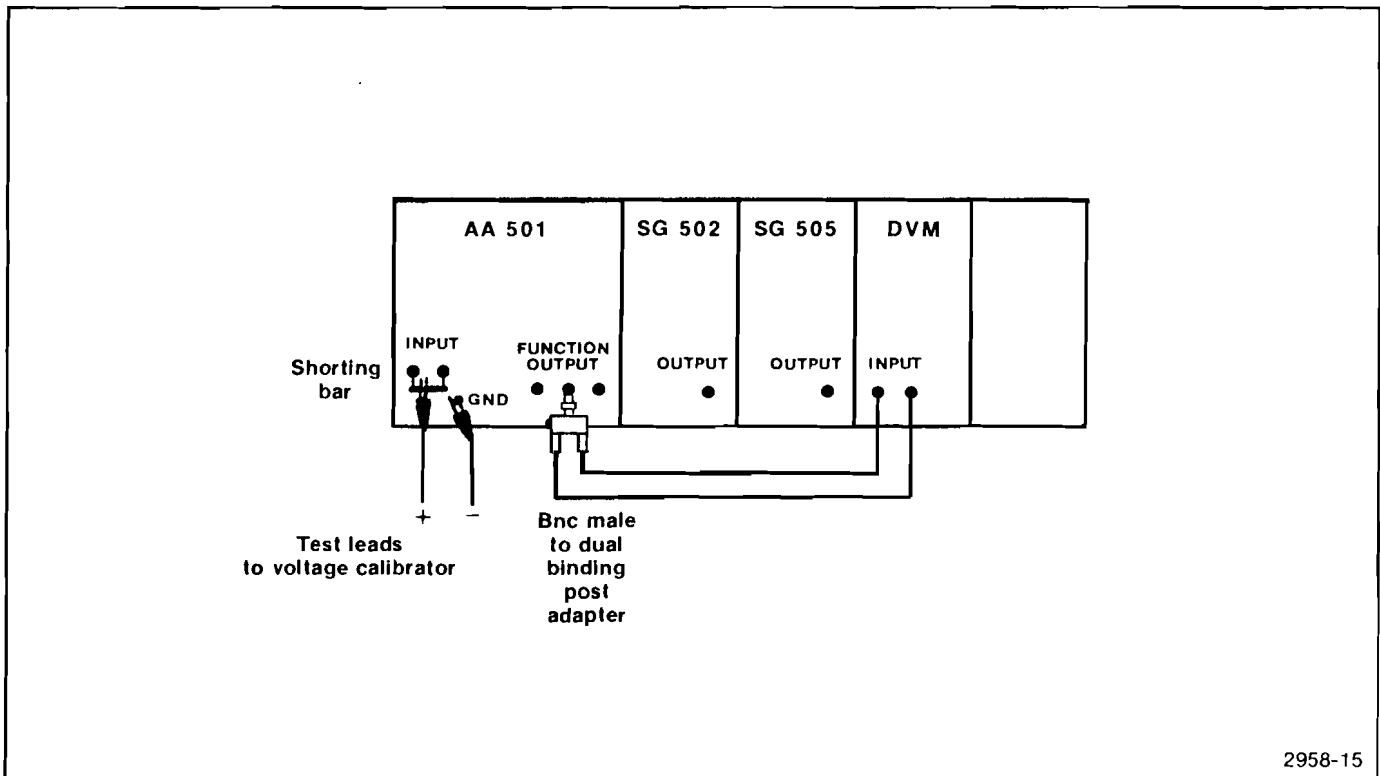

Fig. 4-2. Check step 2. Common mode rejection.
b. Connect the test equipment as shown in Fig. 4-2.